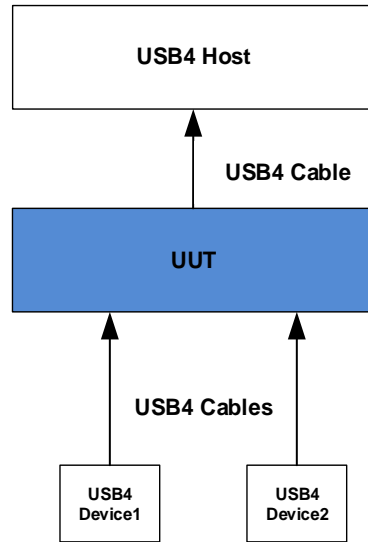

Figure 4-10: USB4 Host ↔ UUT (USB4 Hub Under Test) ↔ USB4 Devices Topology
4.7.3.2. Multiple USB4 Devices (UUT with 2 or more DFP, See Figure 4-10)